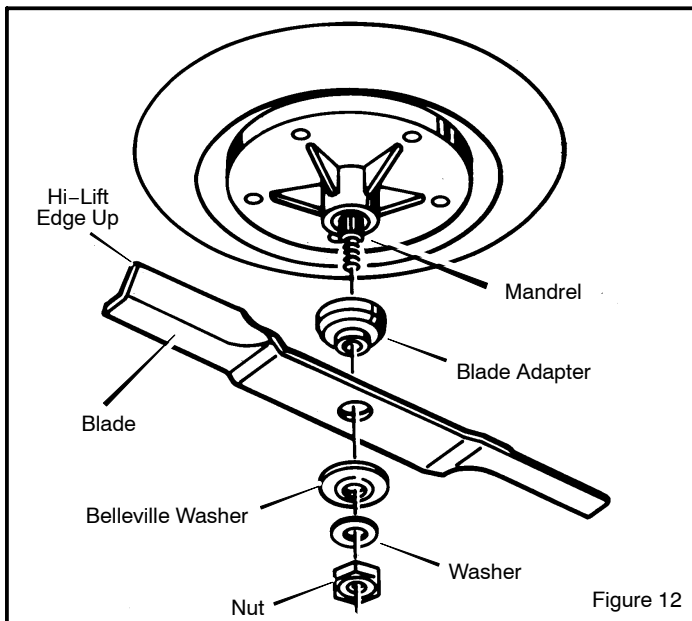

Figure 12
3. Remove the **nut** that holds the blade (Figure 12).
6. Mount the **blade** and **blade adapter** on the **mandrel** (Figure 12).